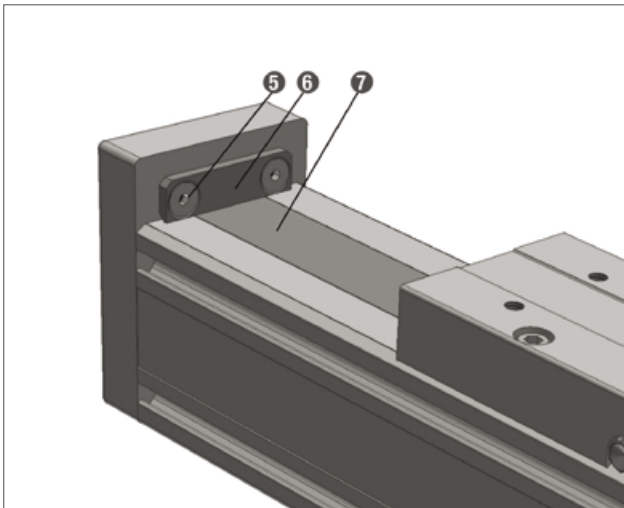
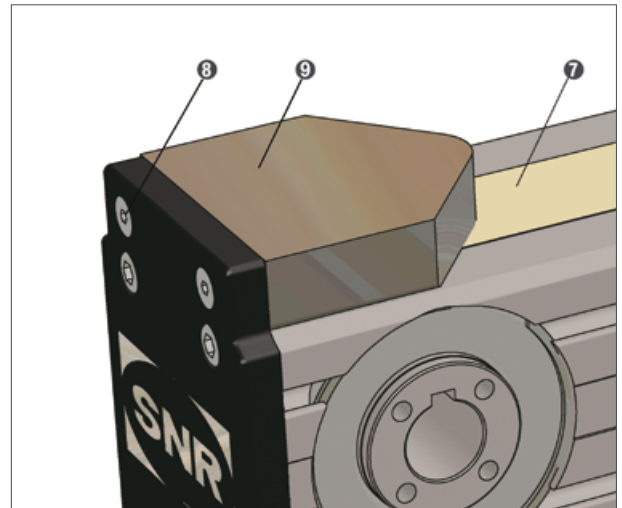

Figure 4.14 — Cover strip fastening for screw drive axis
Figure 4.15 — Cover strip fastening for toothed belt axis
2. For Linear Axis with screw drive (Figure 4.14), disassemble the screws of the cover strip clamping **3** and **5** and remove the clamping plates **4** and **6**. For Linear Axis with toothed belt drive (Figure 4.15), disassemble the fastening screws of the end position dampers **8** and remove the end position dampers **9**.